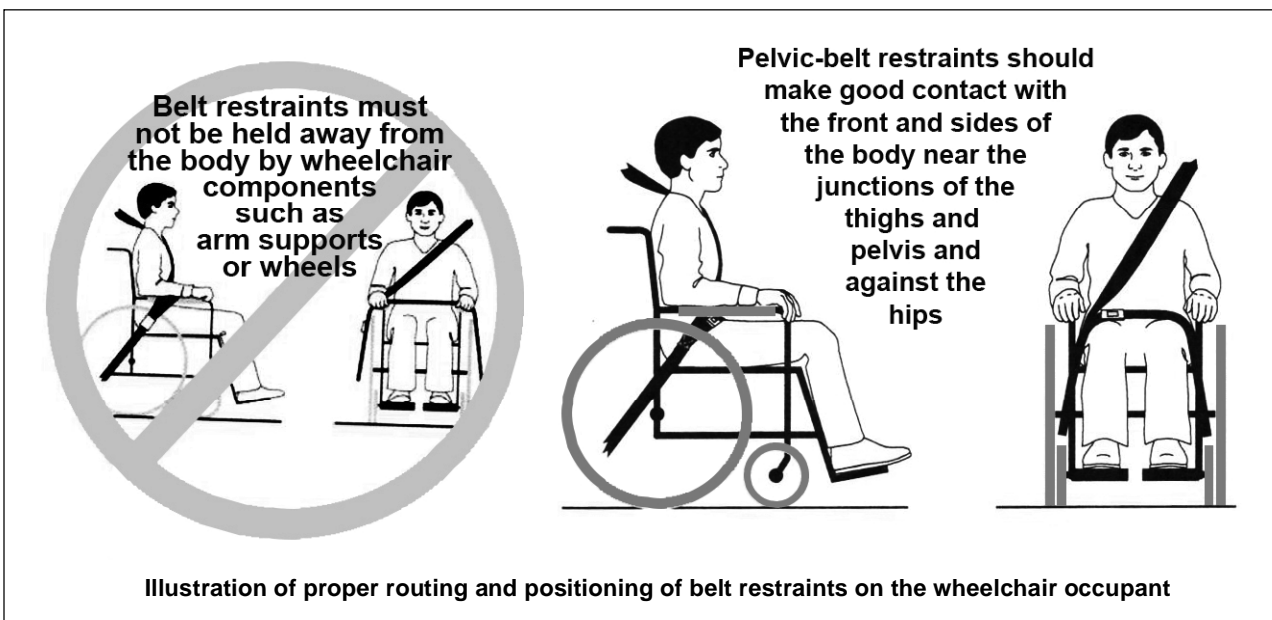

Figure 5
7. The belt(s) should not be held away from the body by wheelchair components or parts, including but not limited to wheelchair armrests or wheels. Refer to Figure 5 for proper and improper positioning of the belts.